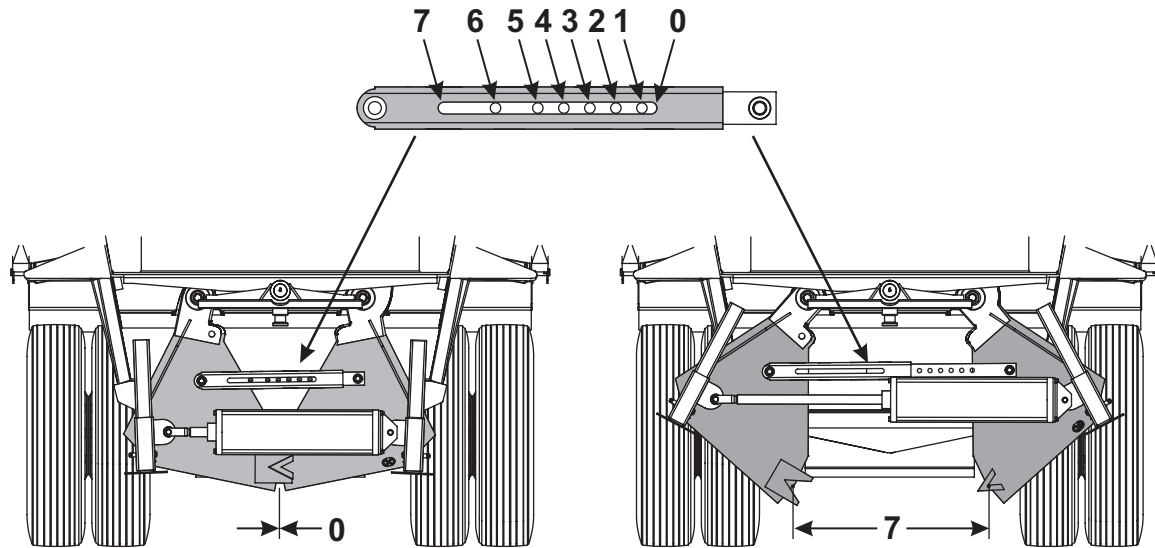

Figure 3-37 – Gate Opening Width Adjustment
- g. The dump gate adjustments are shown in **Figure 3-37**: